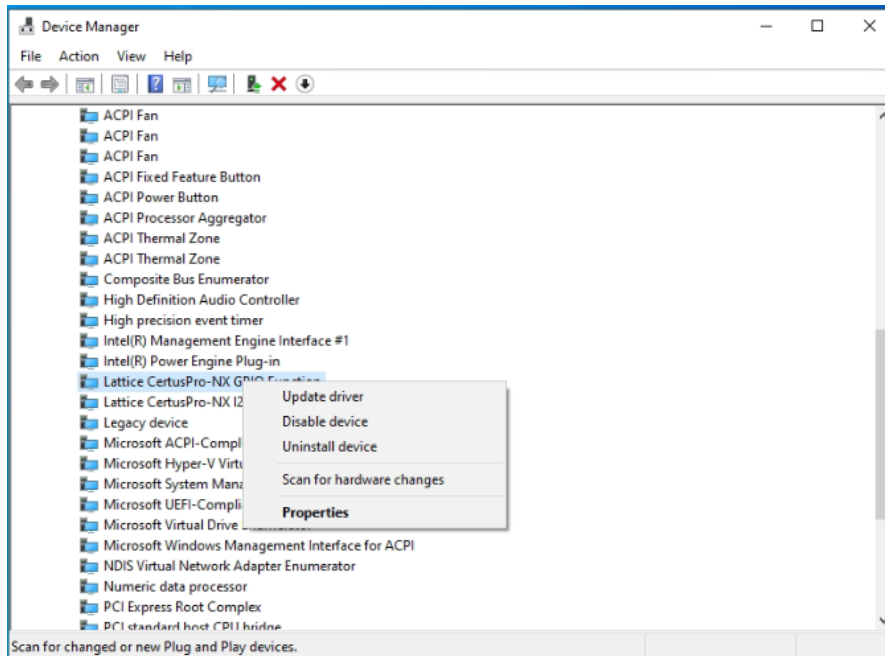

Figure 5.58: Select “Uninstall device” for the device user want to uninstall
2. Right click on the device driver and select Uninstall device as shown in Figure 5.58.